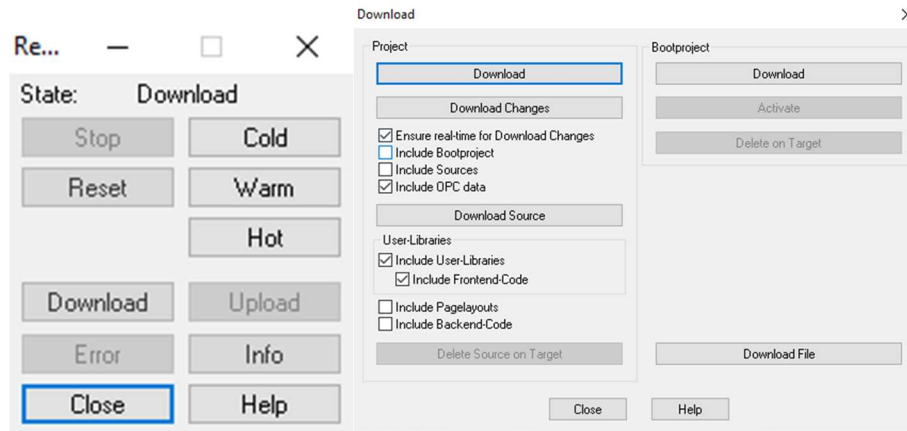

Figure 19: Download and Run Series 1
- After a few seconds the window on the left of Figure 19 should appear, hit Download and the window on the right of Figure 19 should appear. Hit Download again.